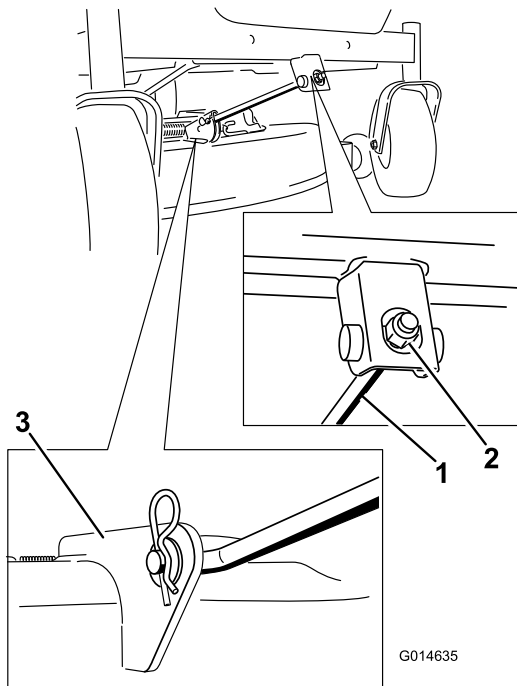

Figure 54
- Remove the hairpin cotter from the front support rod and remove the rod from the deck bracket (Figure 54). Carefully lower the front of the mower deck to the ground.
6. Attach the front support rod to the mower deck with the clevis pin and hairpin cotter (Figure 54).